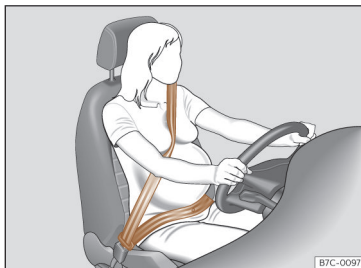

Fig. 22 Position of seat belt during pregnancy.
In the case of **pregnant women**, the seat belt should pass uniformly over the chest and as low as possible through the pelvic area with the strap flat so it does not press down on the abdomen; in addition, it must be used throughout the entire pregnancy >>> **Fig. 22**.
- In the case of pregnant women, the abdominal strap of the seat belt should pass as low as possible across the pelvic area, resting flat and “surrounding” the abdomen >>> Fig. 22.